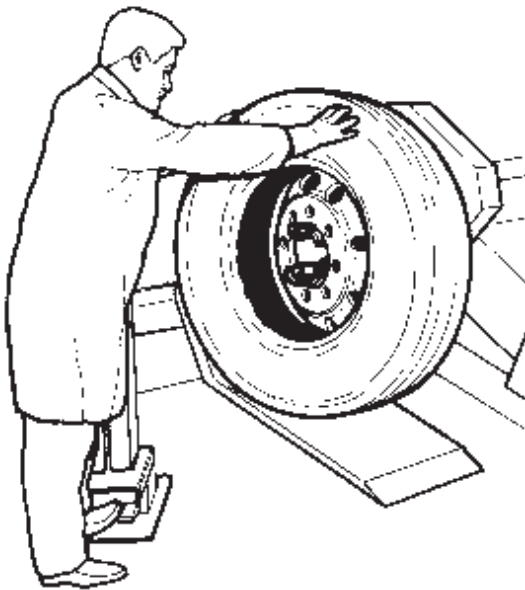

Fig.16
7. Move to the front of the tire and hold it with both hands in the last part of demounting operation to prevent the tire from falling or rolling away out of control (Fig.16).